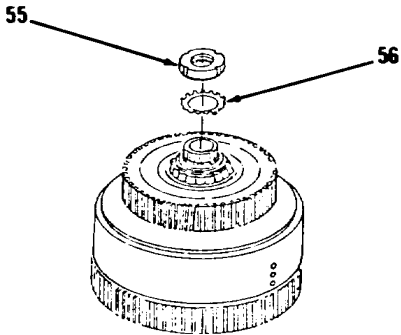
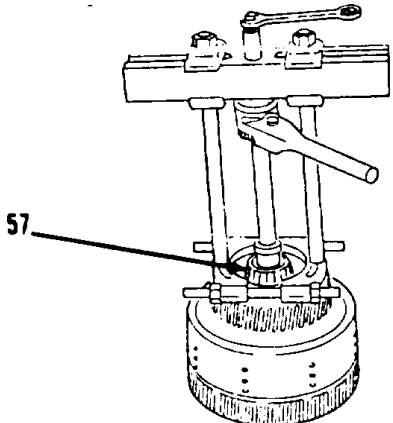

Figure 14-15.
Figure 14-16.
- 53. Bend nut lock (56) away from lock nut (55, Figure 14-15).
- 54. Using a spanner socket, remove lock nut (55) and nut lock (56).
- 55. Using puller assembly, ratchet box wrench, bearing pulling attachment and spacer, remove roller bearing (57, Figure 14-16).